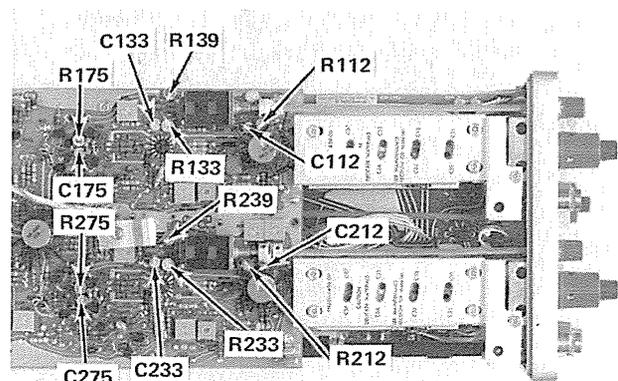

Fig. 5-17. Location of high-frequency compensation adjustments.
e. ADJUST—R139 and R475 (see Fig. 5-17 & 5-18) for the best flat-top waveform.
m. ADJUST—R239, R475, C471, and C477 (see Fig. 5-17 & 5-18), for the best flat-top waveform.
p. Connect the output of the Fast-Rise High-Amplitude Pulse Generator (Type 109) to the CH 1 input via a 50 Ω 5 ns GR cable, (2) X10 GR attenuators, X5 GR attenuator, a 50 Ω GR termination, and a GR-to-BNC adapter.
t. ADJUST—C175, R175, C133, R133, C112, and R112 (see Fig. 5-17), with a low-capacitance screwdriver, for the best flat-top waveform.
y. ADJUST—C275, R275, C233, R233, C212, and R212 (see Fig. 5-17), with a low-capacitance screwdriver, for the best flat-top waveform.